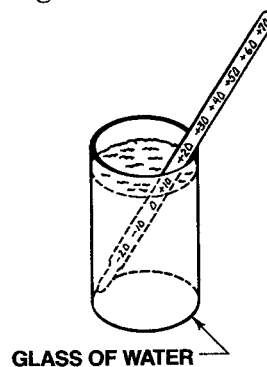

Figure 3.
g. In refrigerator section, place thermometer in a glass of water and place in middle of refrigerator. Wait 5-8 hours. If temperature is not 38° to 40°F (+3° to +4°C), adjust the control, one number at a time. Check again after 5-8 hours. See Figure 3.